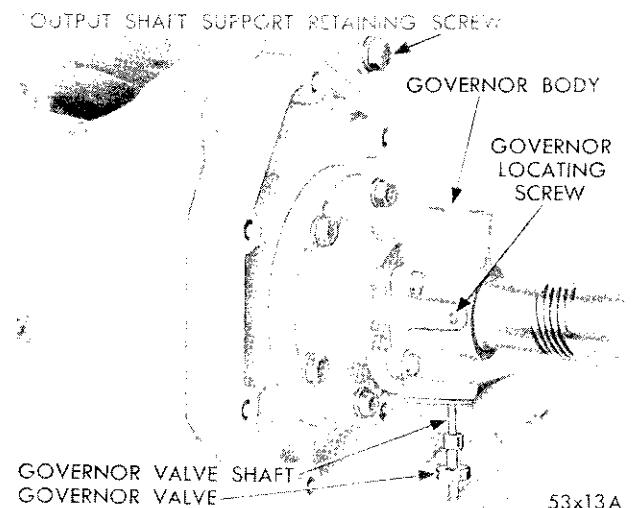
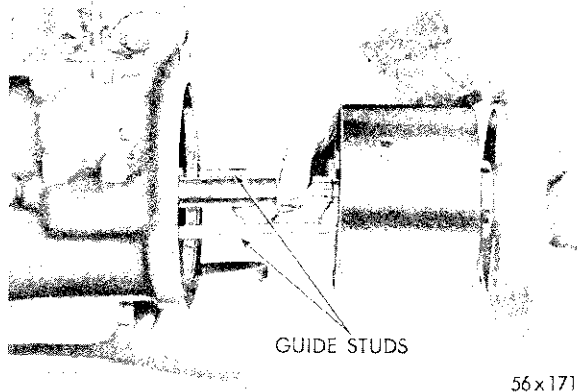

Fig. 13—Removal and Installation of Governor Valve and Shaft
Fig. 19—Removing Output Shaft, Carrier Housing and Input Shaft Assemblies
(1) Loosen governor body to support screws to aid in removal of governor assembly.
(2) Using a sharp instrument, such as an ice pick, remove the governor valve shaft snap ring (weight end) and remove the governor valve shaft and valve from governor valve body assembly (Fig. 13).
(3) Using pliers, Tool C-760, remove the governor
(1) Remove output shaft support to transmission case screw and washer (Fig. 13). Loosen reverse band adjusting screw and locknut to release any tension of reverse band on carrier housing. Grasping output shaft in both hands, carefully work shaft, planet pinion carrier assemblies, housing and support, out of transmission case, as shown in Figure 19. If support is stuck to transmission case and cannot be removed as described, lightly tap support with a soft hammer.